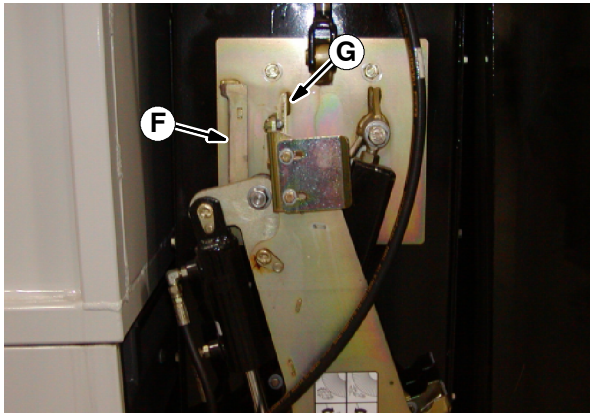

FIG. 2
6. Use a cutting wheel to remove the rear cam bracket (F) from the lift assembly. Take care to not cut into the plate. Refer to Fig. 2.